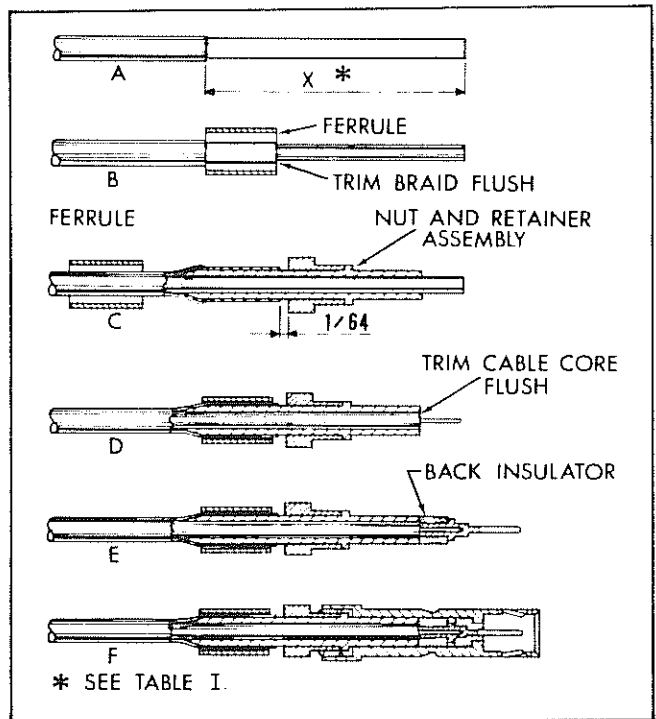

Figure 2-4. Type II Contact Assembly Steps
a. Remove length ("X" dimension) of cable outer sheath from end of cable (A, figure 2-4). Hot wire stripping is recommended to avoid cutting or nicking center conductor.
b. Slide ferrule over outer conductor (braid) flush with edge of outer sheath (B, figure 2-4).
d. Slide ferrule over outer sheath (C, figure 2-4). On some coaxial cables this ferrule will not move back over the outer sheath due to diameter interference. Position the nut and retainer assembly inside the outer braid while holding the ferrule in position over the outer braid. Crimp as described in step f.
f. Slide ferrule over outer conductor (braid) and crimp braid between ferrule and retainer with Thomas & Betts Crimping Tool* (D, figure 2-4). Make certain nut turns freely after crimping.
h. Install back insulator over back end of inner contact (E, figure 2-4).
k. Slide front insulator over inner contact, large diameter first (F, figure 2-4).